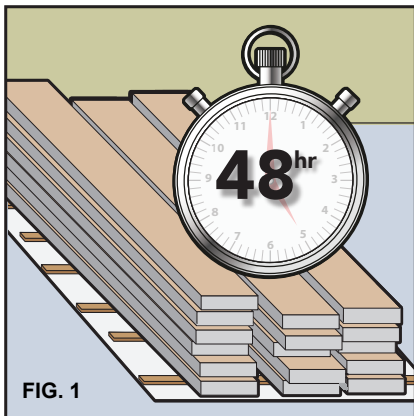

FIG. 1
- Stack boxes no more than eight cartons high in areas to receive new flooring (remove plastic from outside of boxes if present). Ensure each layer is evenly supported to prevent distortion. Elevate stack using 2 x 4's as illustrated in Fig. 1 above.